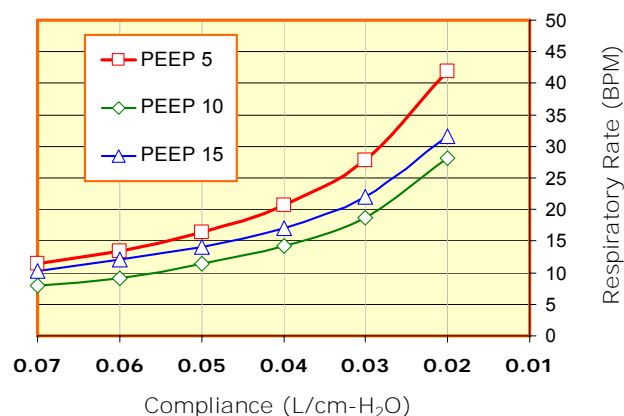

Figure 1
The AR automatically delivered a reduced tidal volume (TV) at a faster respiratory rate (as shown in Figures 1 and 2) from a healthy 0.07 to a stiff 0.02 L/cm H₂O setting, maintaining the low TV ventilation protocol as recommended by the ARDS Network. Without making any adjustments on the AR-Plus, it will deliver a stable minute ventilation (MV = TV X RR) as shown in Figure 3.